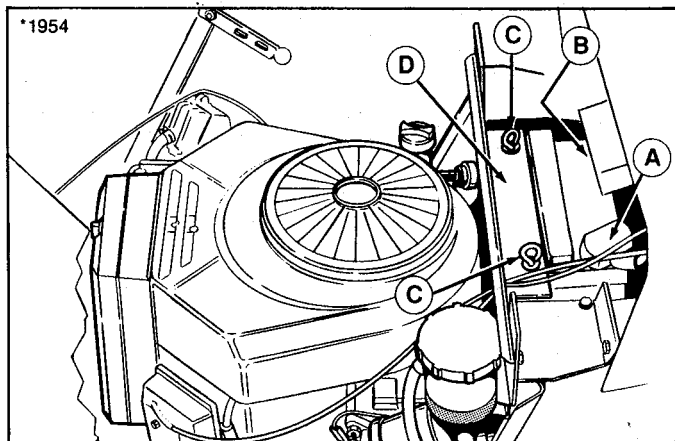

Figure 14. Battery
1. Open engine compartment to locate battery (figure 14). Disconnect the cables from the battery, negative cable first. A positive "+" sign is stamped on the battery next to the positive terminal.